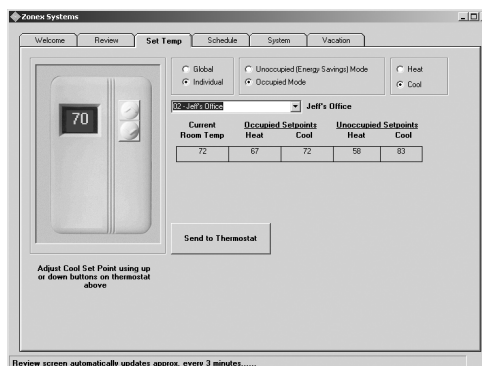

Fig. 23
- After selecting the desired address, the current Occupied and Unoccupied temperature setpoints for that thermostat will be displayed (see Fig. 23).